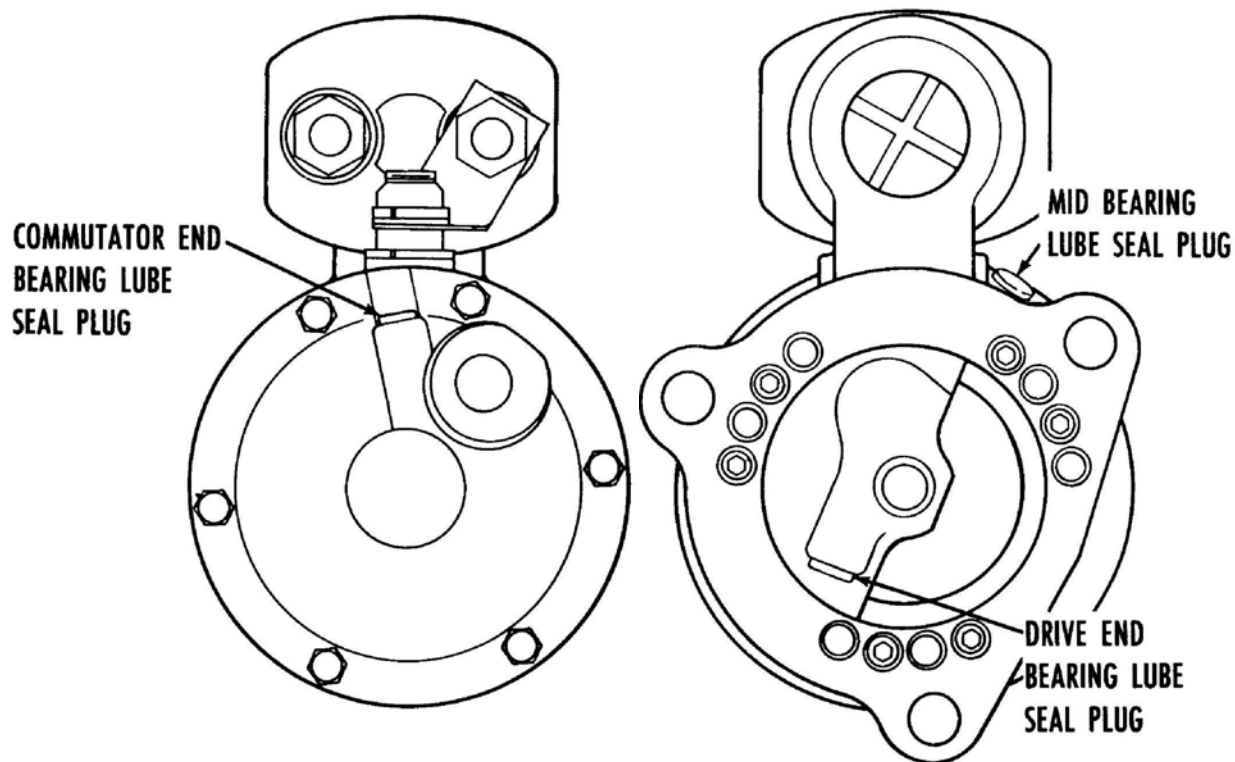

Figure 2-5. Punching Hole for Temporary Lubrication
- 5) Temporary Lubrication of Bearings. If starter produces excessive noise and a lack of lubrication is indicated, temporary lubrication of bearing(s) can be provided by punching a 1/16 inch diameter hole in seal plug over bearing wick (fig. 2-5). Use an oiler to inject about one-quarter fluid ounce of SAE No. 20 (non-detergent) engine oil. Allow five minutes for oil to penetrate bearing.